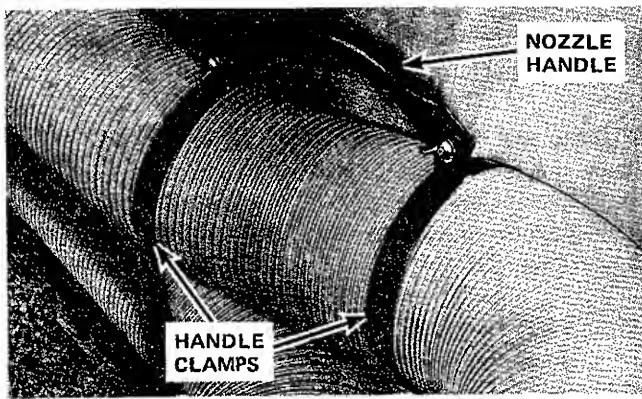

FIGURE 16
2. Install the hose handle clamps the desired distance from the pickup end of the hose and attach the handle. (See Figure 16)